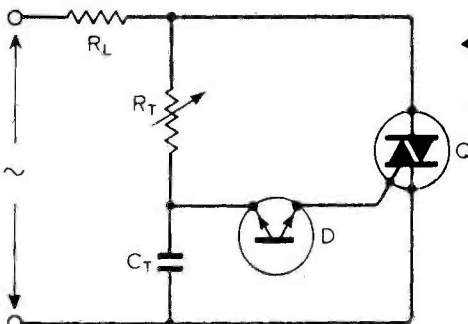

Fig.2. The simplest possible circuit for phase control. The load is represented by resistor R_L .
The simplest circuit for accomplishing phase control is shown in Fig. 2. The electronic switch in this case is a triac (Q) which can be turned ON by a small current pulse to its gate. The triac turns OFF automatically when the current through it passes through zero.
The trigger diode is a device designed specifically to provide current pulses to trigger SCR or triacs. In use, it acts much like a triac without a gate. That is, it will block current flow in either direction as long as the applied voltage is below the breakover voltage, which is generally between 16 and 36 V, depending on the device type. When the breakover voltage is exceeded, the device turns ON. In this state, the current is limited by the external circuitry, and the voltage drop across the diode is about 10 to 15 V. The trigger diode is most commonly used in circuits similar to the one shown in Fig. 2.